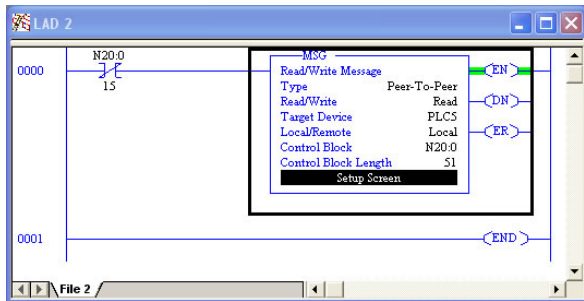

Figure 73: Completed PLC Program
- 7) **The program is now complete. Refer to Figure 73.**